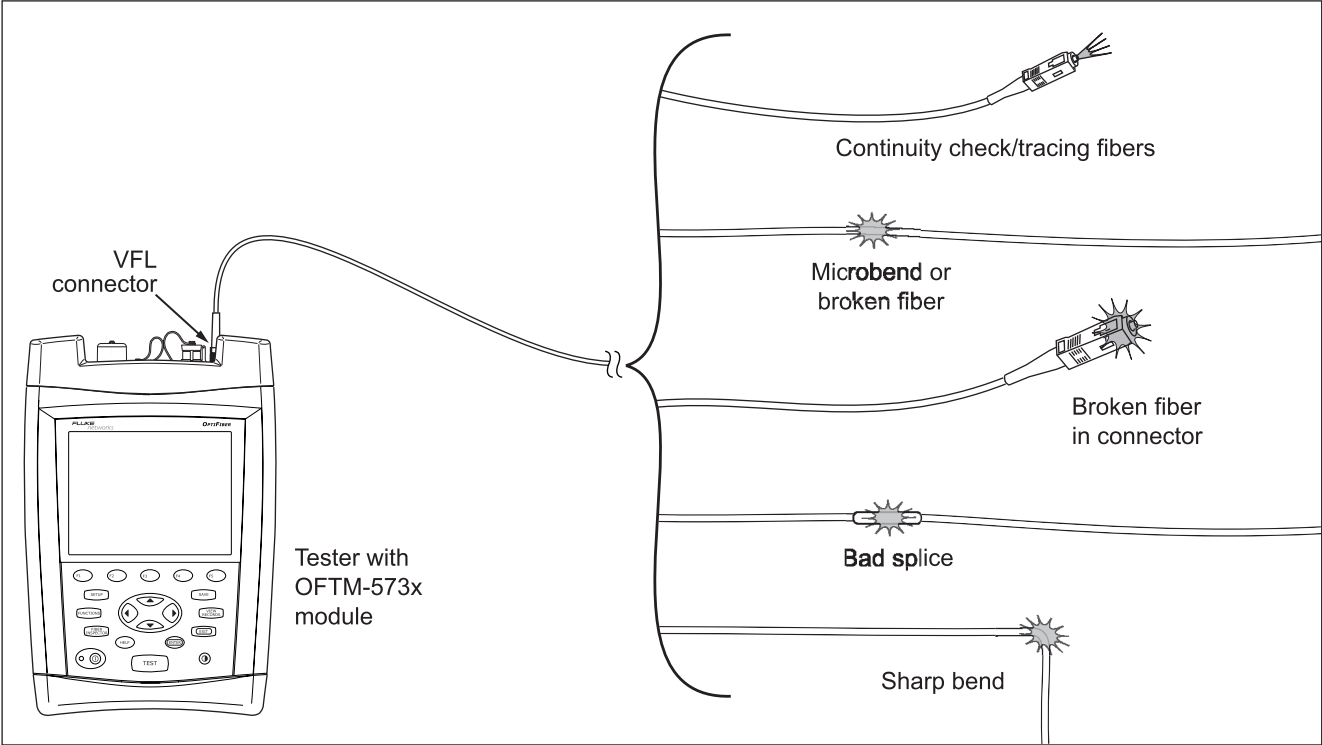

Figure34. Using the Visual Fault Locator
- 6 Look for the red light to locate fibers or faults, as shown in Figure 34.